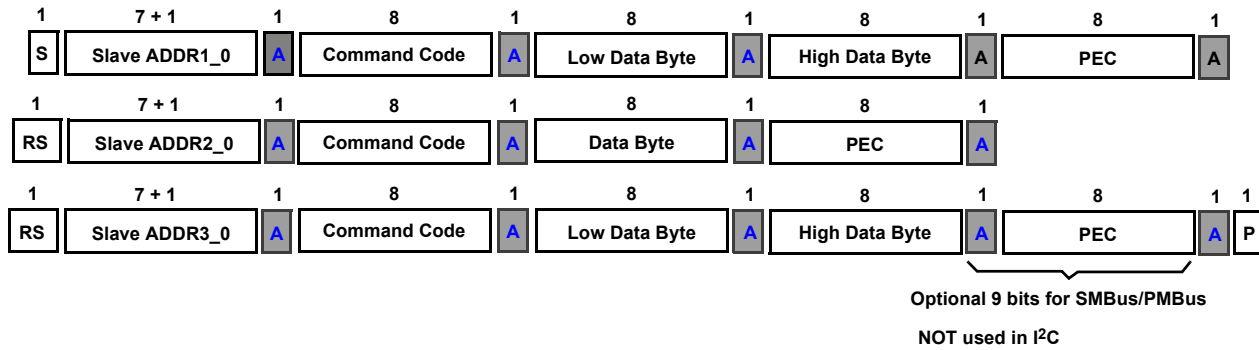

Figure 49. SMBus/PMBus/I²C Command Protocol
For proper operation, follow the SMBus, PMBus, and I²C protocol shown in Figure 49 on page 41. Note: the STOP (P) bit is NOT allowed before the repeated START condition when reading the contents of a register.